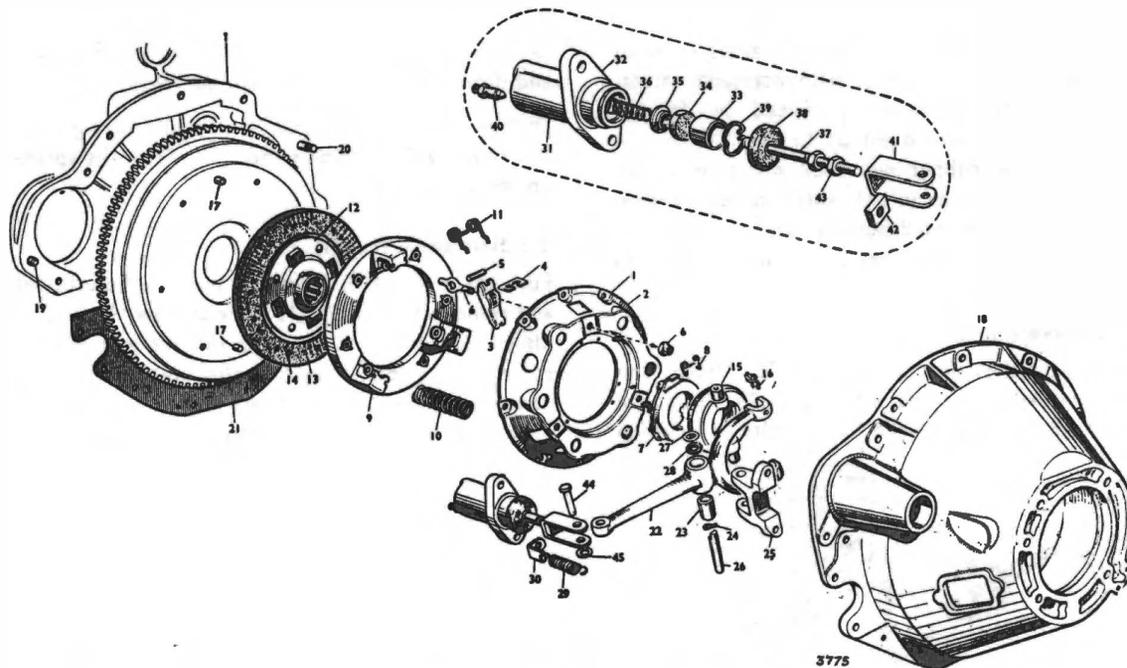

Fig. 3. Exploded view—Clutch components and slave cylinder (Alpine Series I, II and Rapier Series III cars)
Provision for bleeding the system is made on the operating cylinder. (See item 40, Fig. 3.).
SLAVE CYLINDER (Figs. 3 and 5)
Remove the circlip (39, Fig. 3) from the bore (Alpine Series I and Rapier Series III cars). Apply a LOW air pressure to the fluid connection to expel the internal parts.
2. Attach a rubber tube to the bleeder screw (40)—Fig. 3) on the slave cylinder, allowing the free end to be submerged in a little brake fluid in a clean glass jar.
4. Repeat (3) until air bubbles cease to appear from the end of the tube in the jar.